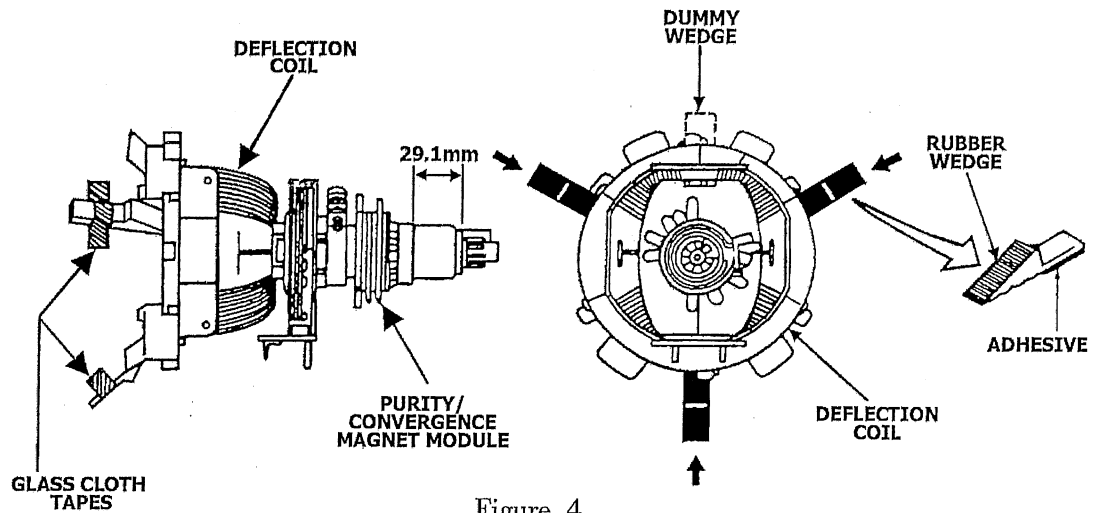

Figure 4
Note: The PURITY/CONVERGENCE MAGNET assembly and rubber wedges need mechanical positioning. Refer to figure 4.
2. Temporarily put a wedge as shown in figure 4. (Do not remove cover paper on adhesive part of the wedge.)
9. Stick three adhesive tapes on wedges as shown in figure 4.